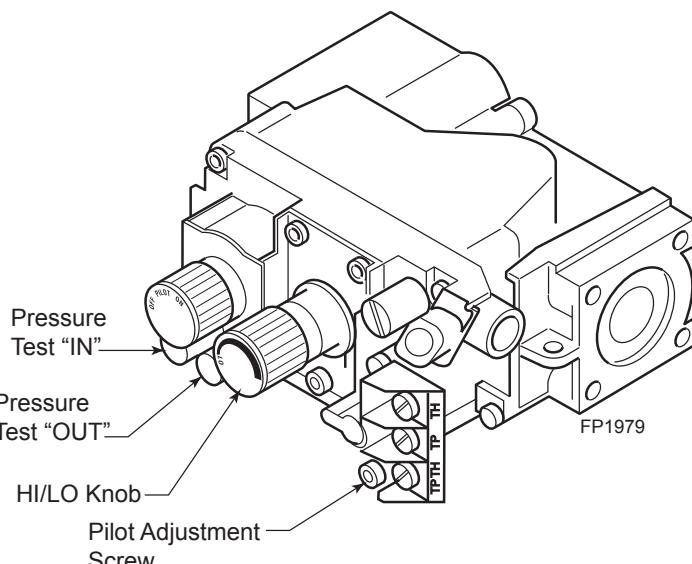

Figure 29 -
5. To check gas pressures at valve, turn captured screw counter clockwise 2 or 3 turns and then place tubing to pressure gauge over test point. Turn unit to high. *Figure 29.* After taking pressure reading, be sure and turn captured screw clockwise firmly to reseal. Do not over torque. Check test points for gas leaks.